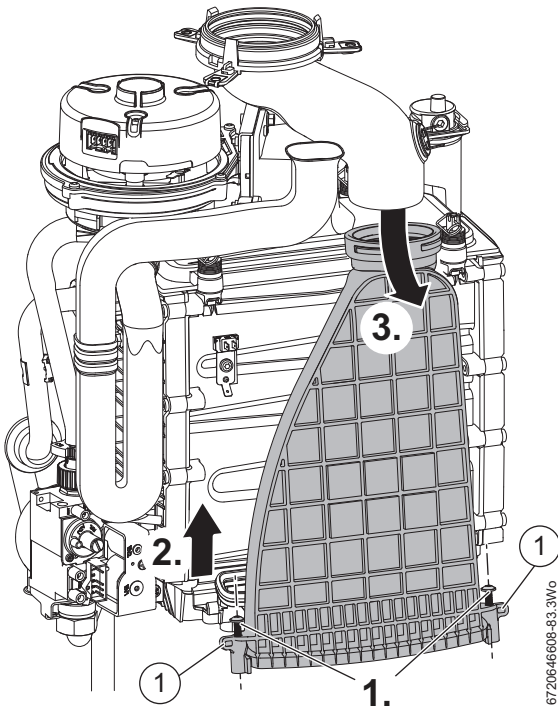

Fig. 86 Flueway removal
► Refer to figure 86 for Flueway removal.
2. Using a screwdriver under the tabs (1) next to the screws, lever the Flueway up to clear the seal and pull the Flueway forward.